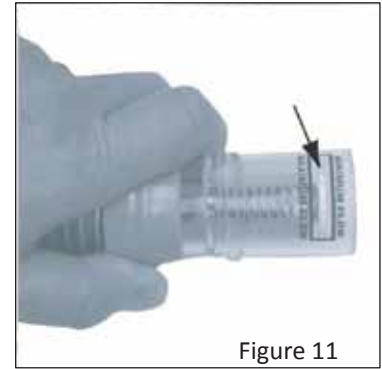

Figure 11
4. Turn the regulator valve adjustment knob clockwise to increase flow or counterclockwise to decrease flow, until the disc indicator in the flow gauge settles between "Maximum" and "Minimum" flow. See **Figure 11**.